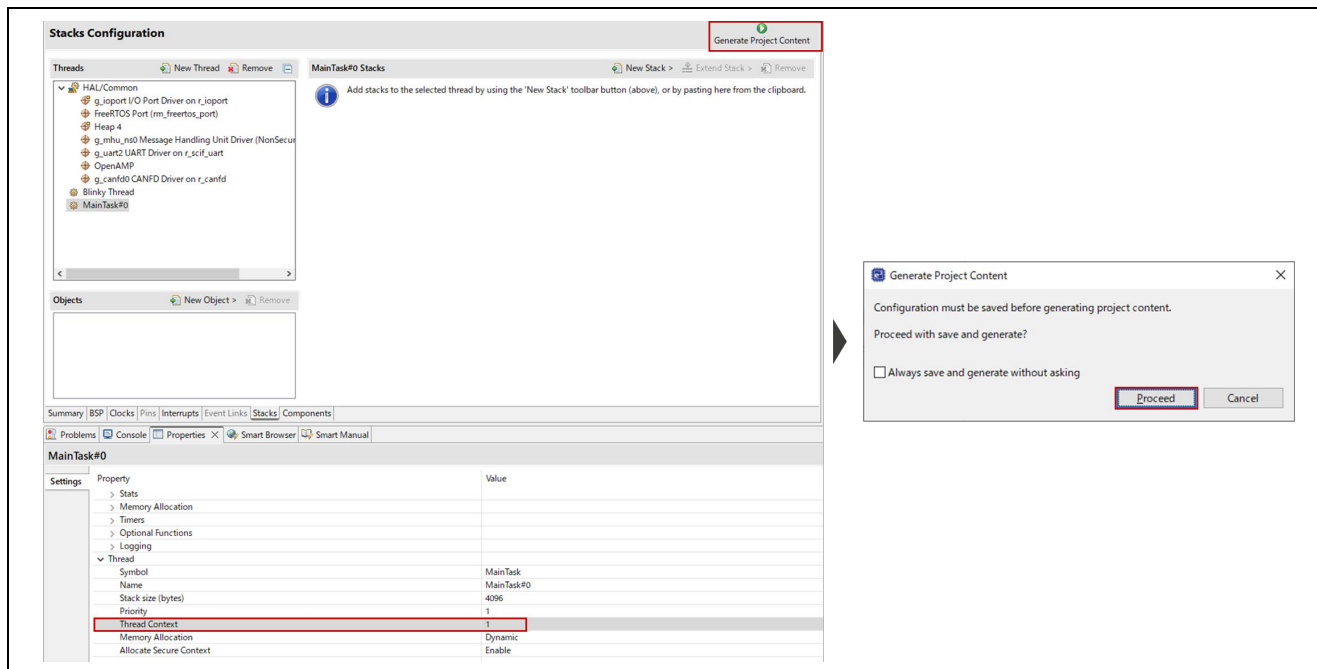

Figure 4-4. RPMsg Channel Setting
1. Choose **rzg2l_cm33_rpmsg_linux-rtos_demo Debug_Flat** or **rzg2l_cm33_rpmsg_linux-rtos_demo Release_Flat** from the drop-down list indicated by a red arrow in Figure 4-4.